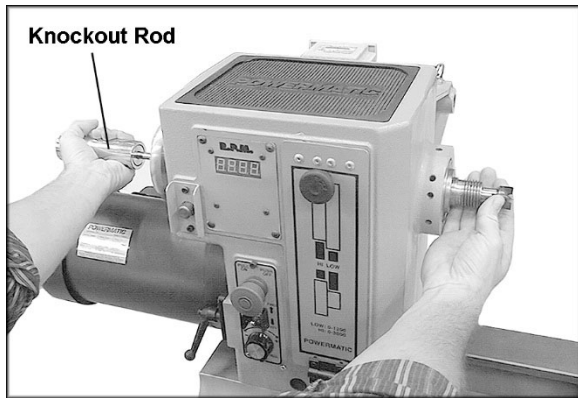

Figure 19
3. To *remove* a spur center or live center, first remove the workpiece from the Lathe. Insert the knockout rod (Figure 19) through the hole in the handwheel and firmly tap the tapered end of the spur center. The sliding collar on the knockout rod helps give the necessary impact without having to use a mallet against the end of the rod.